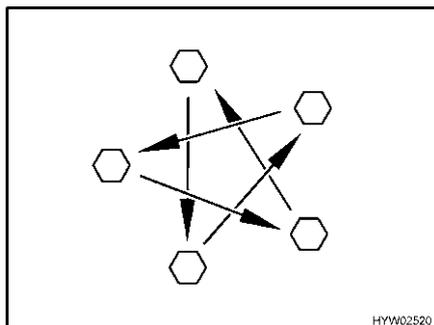

Fig. 221 Tighten the wheel nuts or wheel bolts cross-wise
- Check regularly that the wheel nuts or wheel bolts are firmly seated. Retighten the wheel nuts or wheel bolts of a changed wheel cross-wise (Fig. 221) after 50 km (30 miles). See section 13.5.2 for tightening torque.
- ▷ Tighten the wheel nuts or wheel bolts cross-wise (Fig. 221).